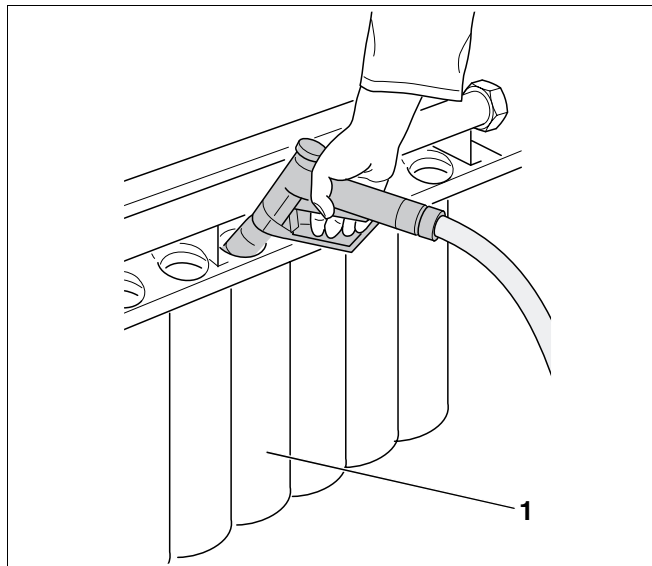

Fig. 21 Cleaning the gas burner
- Initially flush the burner rods (Fig. 21, **Item 1**) with a water hose from above, then spray the slots from the front.
- Position the gas burner vertically onto the burner rods (Fig. 21, **Item 1**).
- Spray the burner rods (Fig. 21, **Item 1**) internally with water and wait, until all water has been expelled from the burner rod slots.